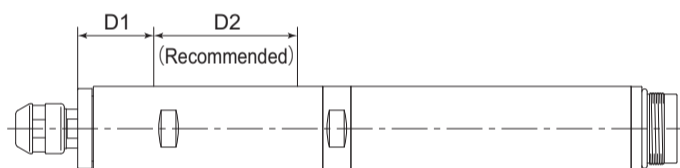

Fig 12
- When mounting the motor spindle, refer to the Clamping Area etched on the motor spindle. (Fig. 12)